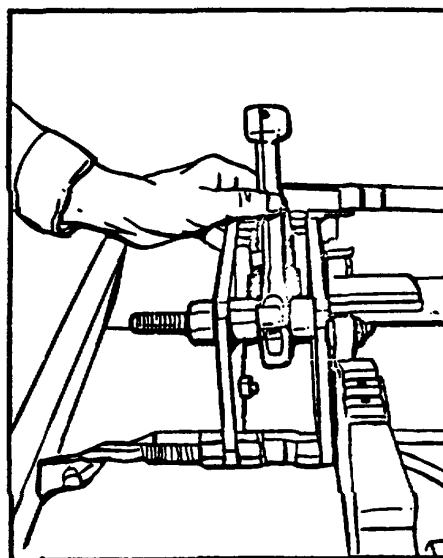

FIGURE 26
- e. See Figure 26. Slide a rod that has been ground and torqued into fixture opening with rod shank up.